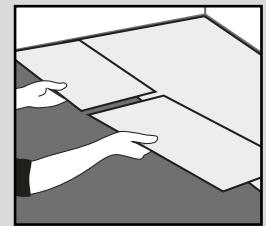
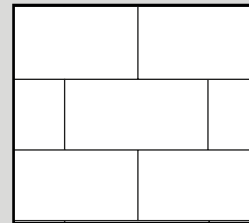
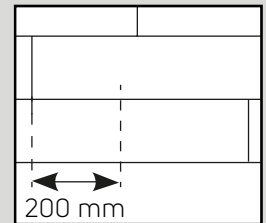

Fig. 4a
Fig. 5a
Fig. 5b
- Install the next plank/tile by lifting the edge of the previous plank easing the tongue and groove together on the end joint, then slide in the long side which can then be tapped into position with an "off cut of material" or tapping block. (Fig. 4a, 4b & 4c). Tiles and planks should be installed "off-set" such that their four corners never meet (Fig. 5a and Fig. 5b).